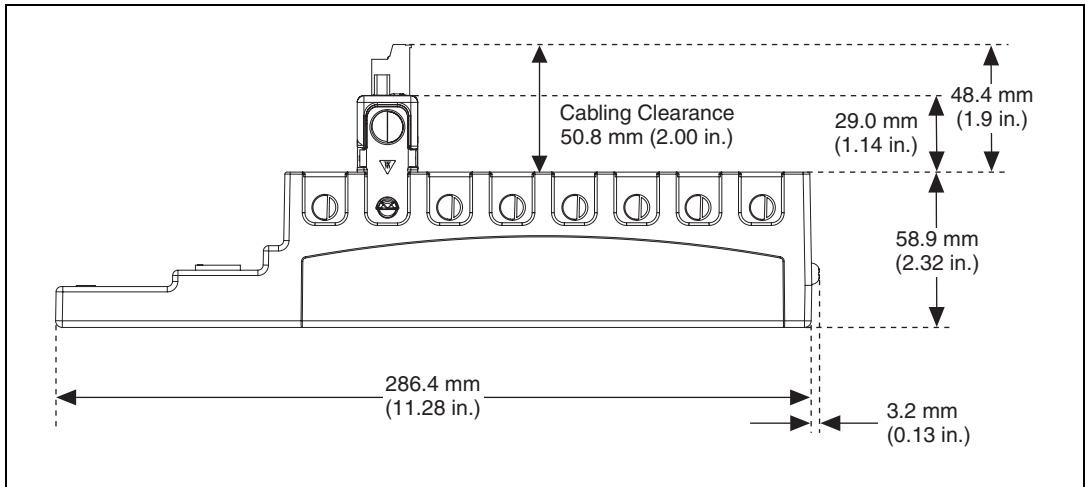

Figure 2. NI 9144 Chassis, Bottom View with Dimensions
- Allow 50.8 mm (2 in.) in front of C Series I/O modules for cabling clearance for common connectors, such as the 10-terminal, detachable screw terminal connector, as shown in Figure 2.